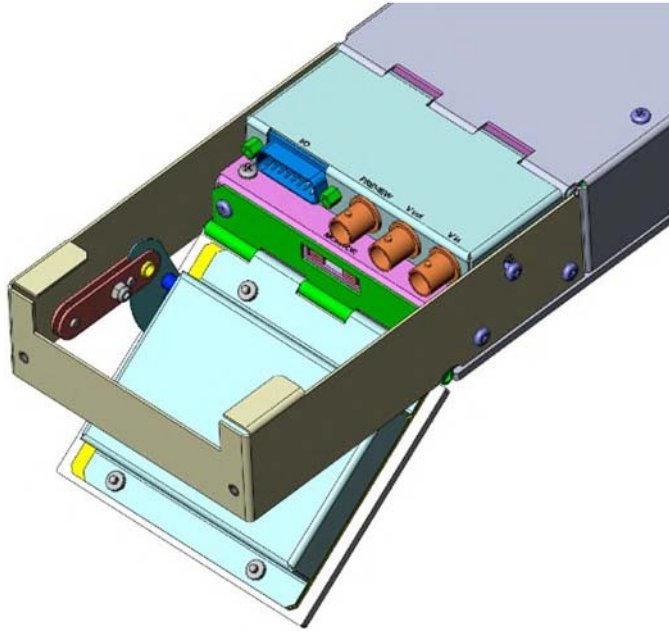

Fig. 3-9: CHRCP-LCD1 Installation Step #4
- 4 Adjust the hinges so that the LCD panel extends to the full 45-degree range, and retracts flat (Figure 3-9).